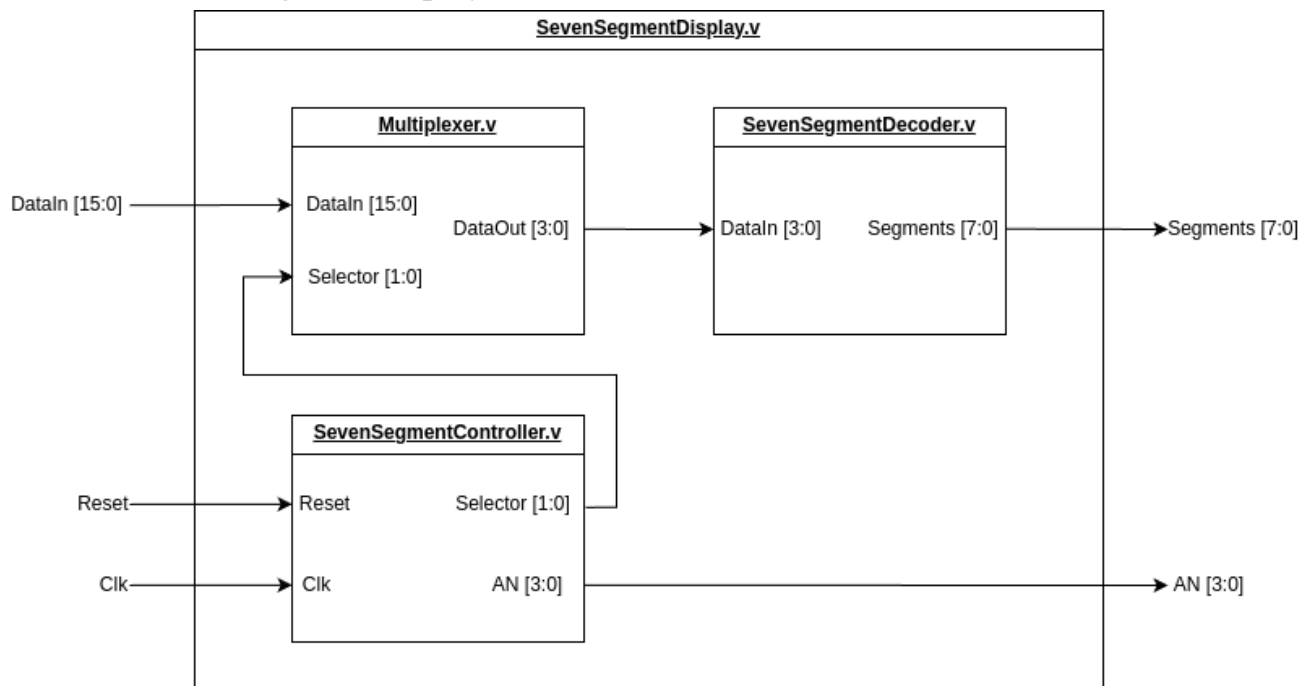

Figure 8 : SevenSegmentDisplay Module
Figure 8 illustrates the implementation of the FourBCD Module. The **SevenSegmentDecoder**, which you implemented in the first lab, is already provided for you. This task is divided into three subparts: **Multiplexer**, **SevenSegmentController**, and **System Integration and Validation**.
In this section, you will implement the SevenSegmentDisplay Module, as shown in Figure 8. The SevenSegmentDisplay Module includes the following ports:
1. Modify the SevenSegmentDisplay module to connect all the submodules according to figure 8.